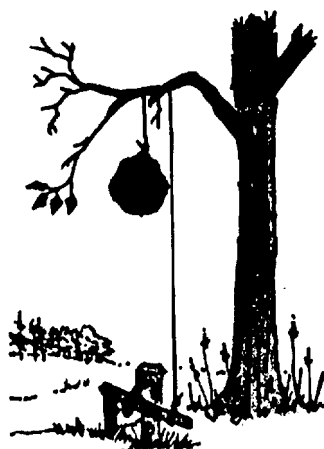

Figure 2-53. Parachute Cloth
- ae. Parachute Cloth. Parachute cloth (See Figure 2-53) has many uses. It can be used as a head cover, for carrying objects, as a tumpline, to protect food supplies, to provide shelter, and many other uses.